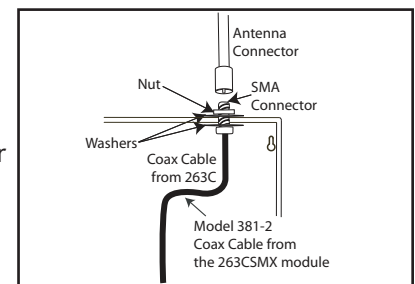

Figure 3: 263CSMX Antenna Connection
4. Attach the included 383 Antenna to the SMA connector. See Figure 3.
5. Attach the opposite end of the 381-2 Coax to the SMA connector on the 263CSMX. See Figure 3.